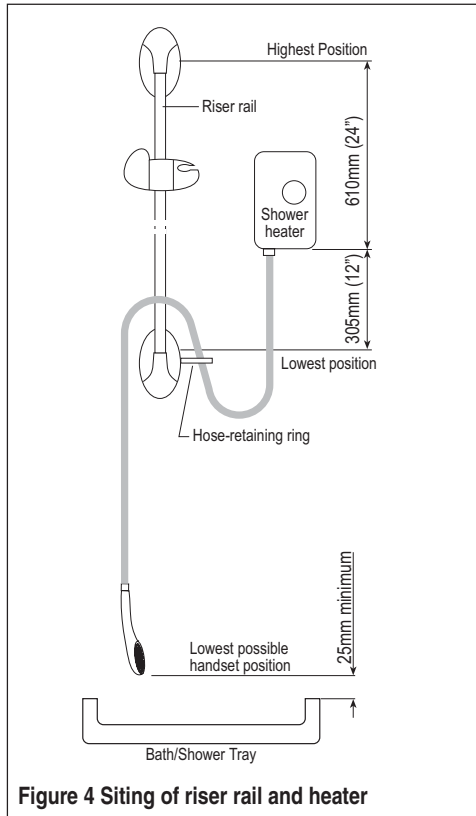

Figure 4 Siting of riser rail and heater
3.7 Position the riser rail close to the heater, not necessarily on the same wall (but bear in mind paragraph 3.5) so that in its highest parked position, the handset is not more than 610mm (24") above the bottom of the heater, and in its lowest position it is no lower than 305mm (12") below the heater - see Fig. 4.
1. Fit a hose-restraining ring - see Fig. 4.